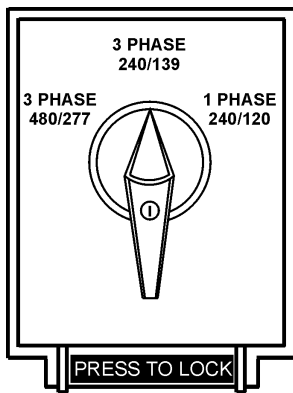

Figure 12. Voltage Selector Switch
A wide range of voltages are available to supply voltage for many different applications. Voltages are selected by using the **voltage selector** switch (Figure 12). To obtain some of the voltages as listed in Table 7 (see below) will require a fine adjustment using the **voltage regulator (VR) control knob** located on the control panel.
The voltage selector switch (Figure 12) is located above the output terminal panel's Hard Wire Hook-up Panel. It has been provided for ease of voltage selection..